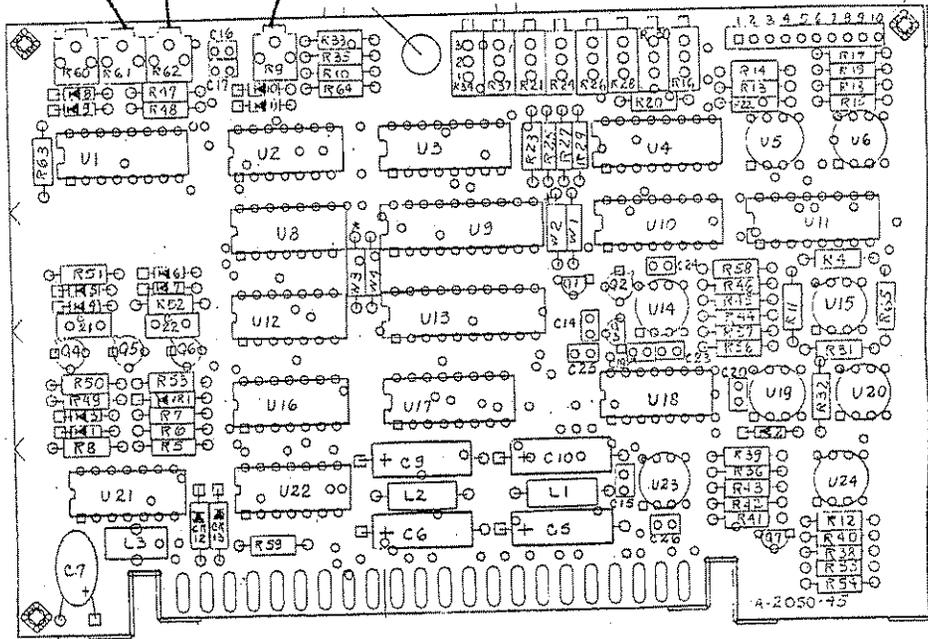

Figure 5-23. SRD Bias Adjustment Locations
7. Adjust A6R9 (SRD) to peak the trace at the end of each band. Refer to Figure 5-23 for adjustment locations.